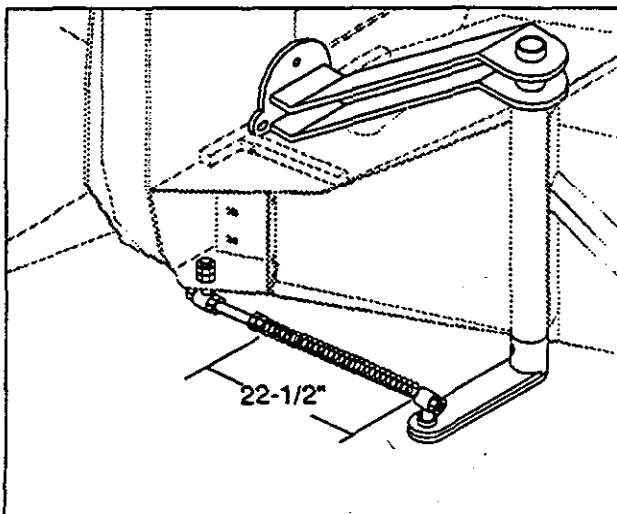

Figure 12
FEED ROLLER SPRING TENSION (Fig. 12)
2. The five springs when compressed should maintain 22-1/2" to keep the proper tension on the feed roller (Fig. 12).